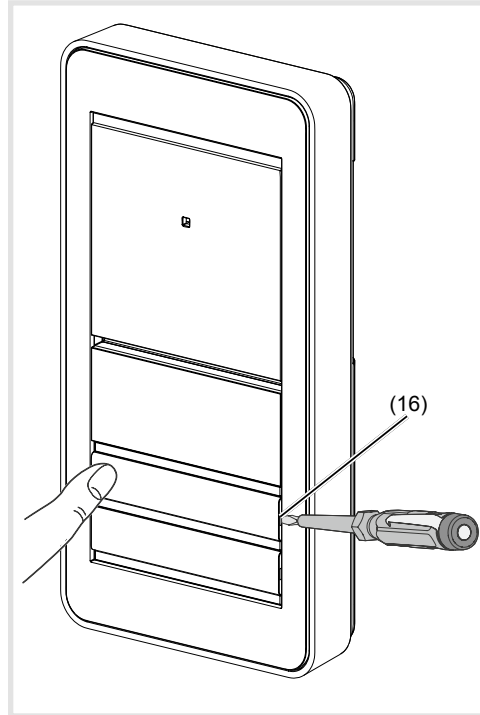

Figure 14: Removing name plate cover
- Insert the screwdriver into the lever opening system (16) and unlock the button (figure 14).